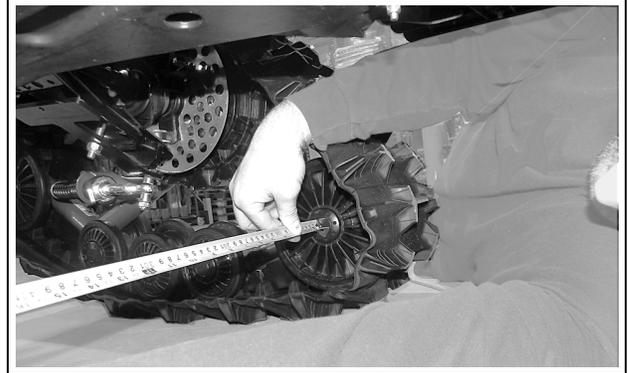

Figure 23
**Measure B:** Measure the distance inside the rear  $\text{\O}202$  mm wheels on the front Track Systems. See figures 23, 24 and 25.